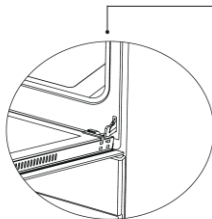

Fig. 8.1
1. Fully open the oven door 90°, then unlock it by pulling the hinge lock up with the help of a screwdriver as shown in Figure 8.1.